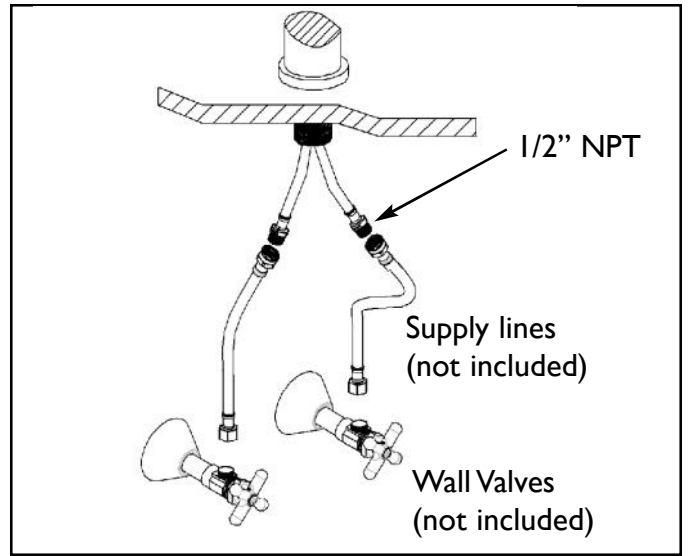

Figure 2
- 2. Attach hot/cold spout supply hoses to appropriate supply lines and valves in the wall. Spout supply hose ends 1/2" NPT. See Fig. 2**